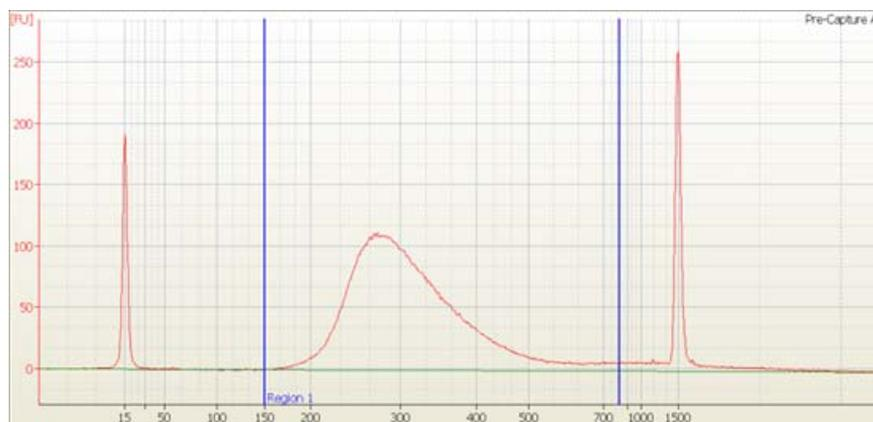

Figure 8 Analysis of amplified prepped library DNA using a DNA 1000 assay.
- 6 Verify that the electropherogram shows an average DNA amplicon size of 250 to 300 bp. A sample electropherogram is shown in Figure 8.